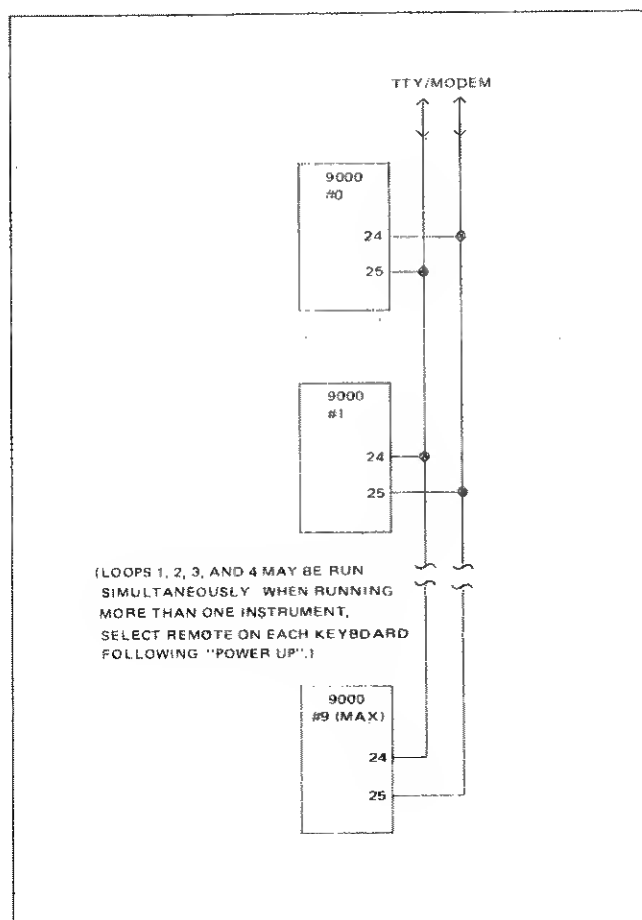

Figure 3.4 - Bus Hookup
3.12.1 The option 57 accommodates up to 10 instruments on a single bus (figure 3.4) with each unit having a separate address. The address allows a specific instrument to be “called up” by the TTY or a tape without interfering with any other unit on the bus. The address is selected by the positioning of four switches on a quad switch unit, located on the serial ASCII board.